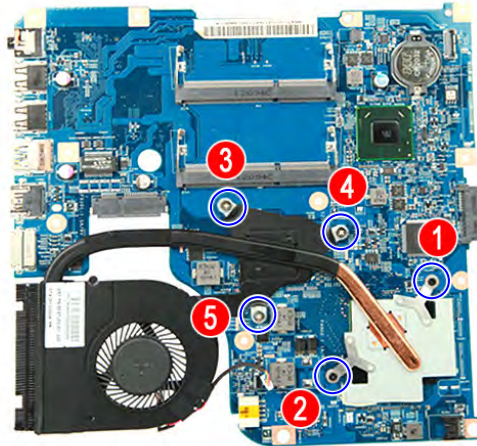

Figure 3-84. Thermal Module Screws
2. Tighten the spring-loaded captive screws securing the thermal module. Follow the screw sequence indicated on Figure 3-84.